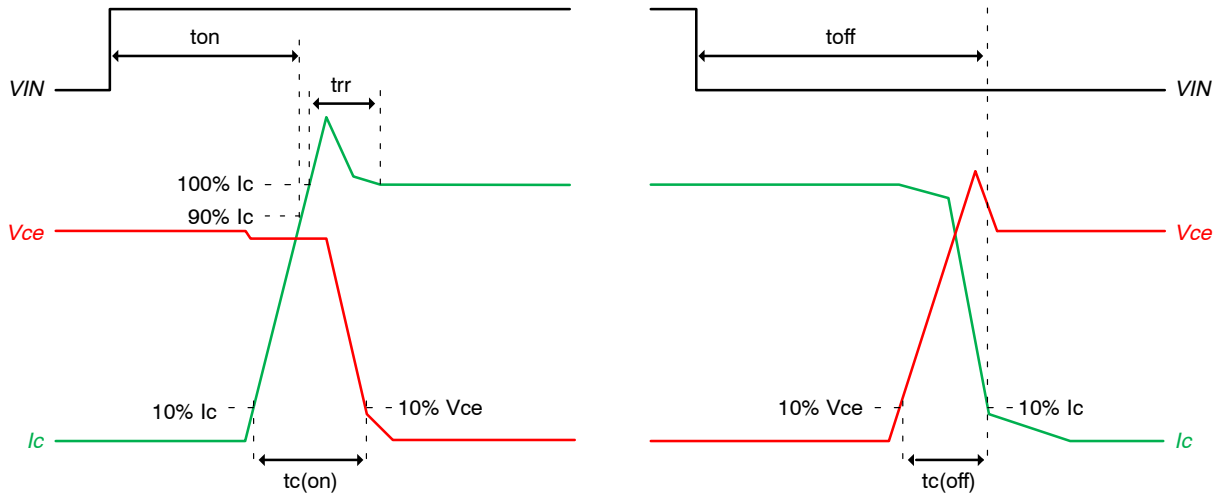

Figure 3. Switching Time Definition
| HS | ton | High Side Switching Times | VPN = 600 V, VDD = 15 V, Ic = 20 A Tj = 25°C, Inductive Load Switching See Figure 3, 23, 24 (Note 4) | 1.00 | 1.35 | 1.90 | μs | |
- ton and toff include the propagation delay of the internal drive IC. tc(on) and tc(off) are the switching times of IGBT under the given gate*driving condition internally. For the detailed information, please see Figure 3.